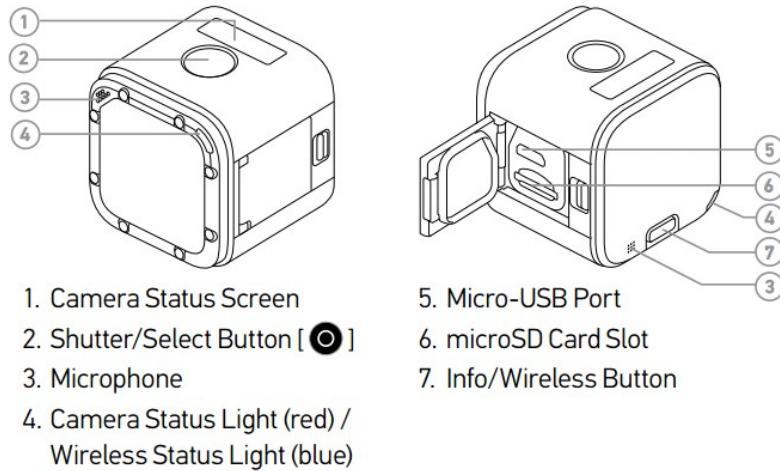

Figure 2: GoPro[©] HERO4 SessionTM Camera Parts
- Refer to Figures 2 and 3 for camera and tablet setup